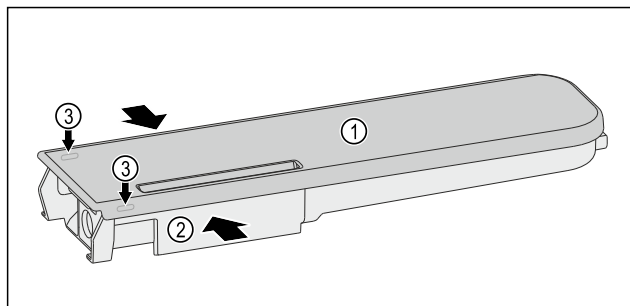

Fig. 174
- Push the water tanks Fig. 174 (2) together, leverage the cover Fig. 174 (1) carefully over the latching tabs Fig. 174 (3) and lift it up.
- Move the cover Fig. 174 (1) slightly forwards and back, and remove to the top.